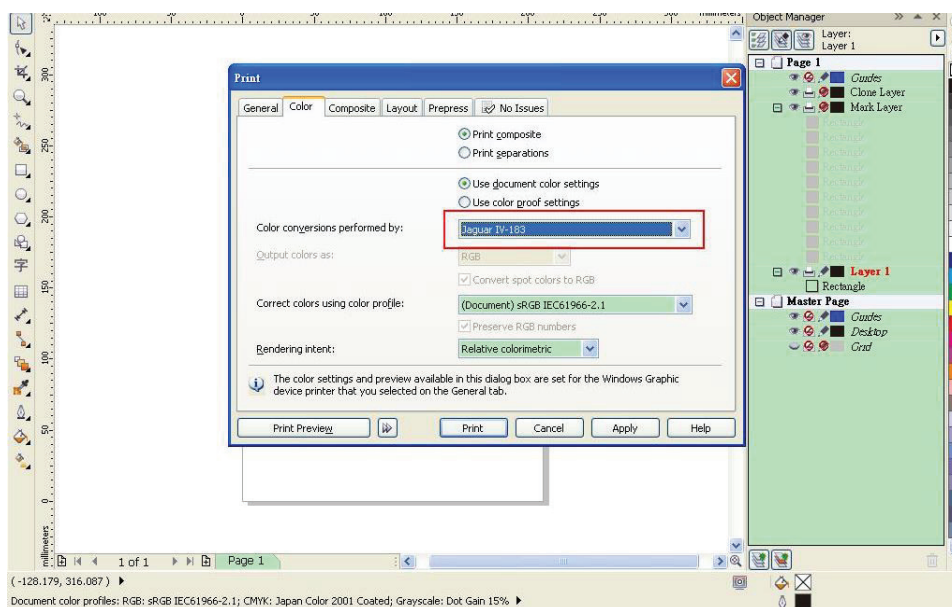

Figure A3-14
Step 1 Click the “color” page and go to the “Color conversions performed by:” and then select the model name of you cutter (please refer to Figure A3-14).